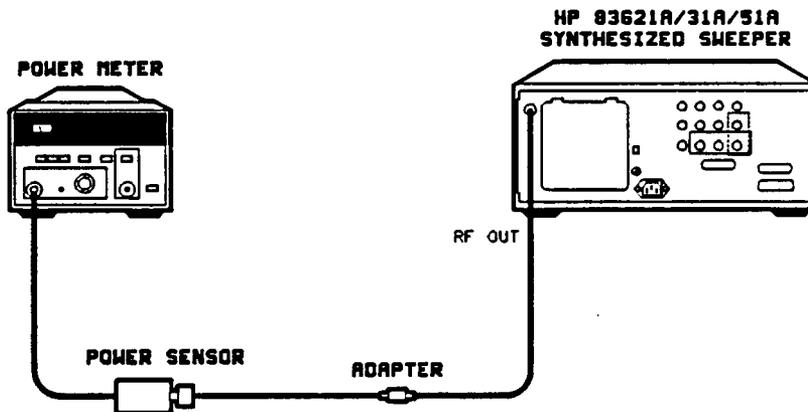

Figure 2-2. Maximum Leveled Power Setup
1. Connect the equipment as shown in Figure 2-2. Let the power meter warm up for at least one hour. Calibrate and zero the power meter.